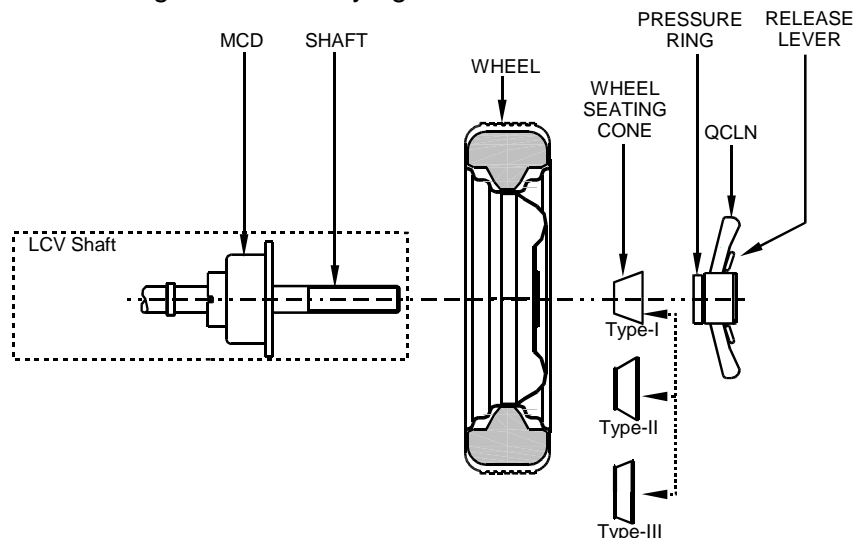

Fig. 14
- Lift the wheel on to the shaft and slide it to butt against the MCD face as shown in Fig.14.